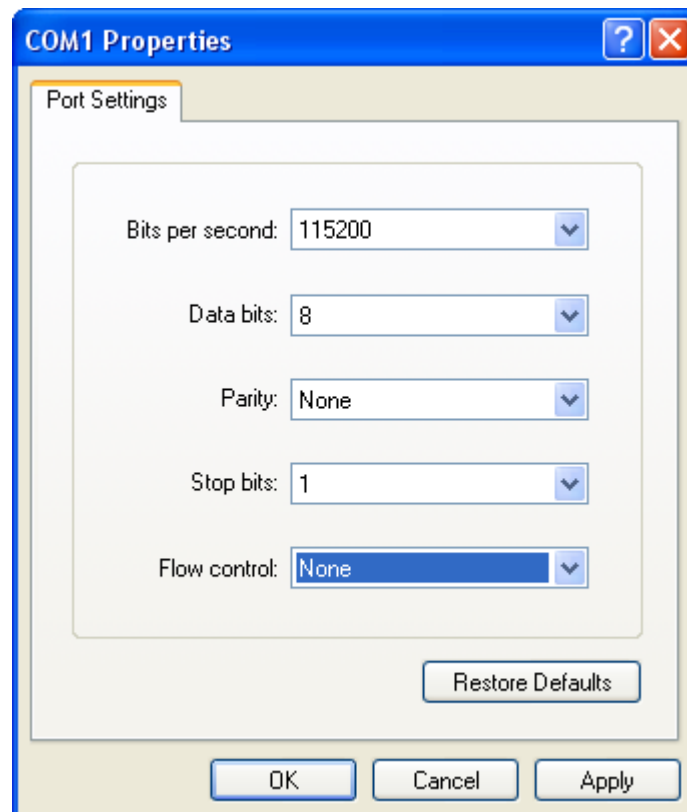

Fig. 3.3 Serial ports parameter setup
**Step 3”:** to select the communication port. Select “com1” communication port in Fig3.2, press “OK”, the dialogue box as Fig. 3.3 will appear.